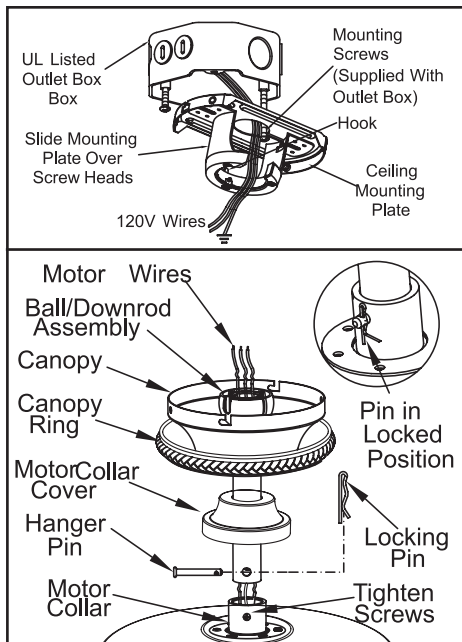

Figure 7
3. Route the wires exiting the top of the fan motor through the decorative motor collar cover then the canopy ring. Make sure the slot openings are on top. Route the wires through the canopy and then through the ball/downrod assembly (Figure 7).
5. Align the holes at the bottom of the downrod with holes in the collar on top of the motor housing (Figure 7). Carefully insert the bolt through the holes in the collar and downrod. Be careful not to jam bolt against the wiring inside the downrod. Insert locking pin through the hole near the end of the hanger pin until it snaps into its locked position.
1. Pass the 120-volt supply wires through the center hole in the ceiling mounting plate as shown in Figure 7.
2. Install the ceiling mounting plate on the outlet box by sliding the mounting plate over the two screws provided with the outlet box (Figure 7). When using close-to-ceiling mounting, it is important that the mounting plate be level. If necessary, use leveling washers (not included) between the mounting plate and the outlet box. Note that the flat side of the mounting plate is toward the outlet box.